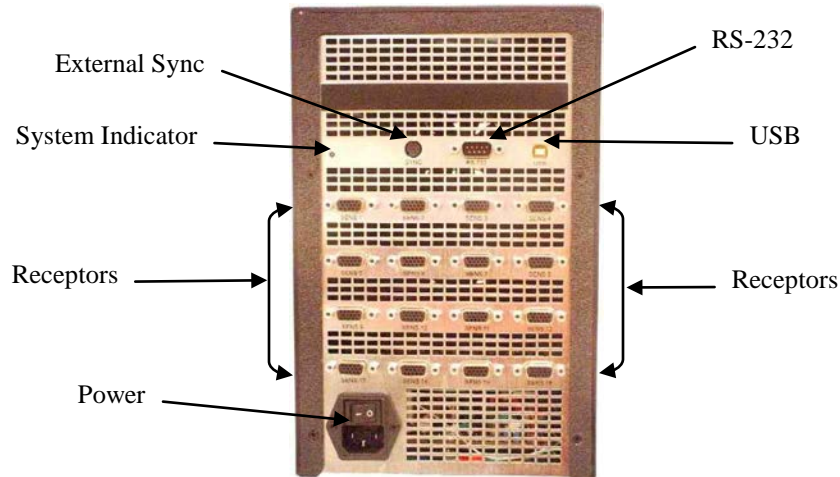

Figure 1-2: LIBERTY LATUS Rear Panel
1.2.3 Examine the rear panel of the LIBERTY LATUS and review the locations of the receptor (sensor), power, RS-232, USB, and external sync ports. The layout of the rear panel is the same for all LIBERTY LATUS configurations. The only difference may be the number of receptor ports. See Figure 1-2.